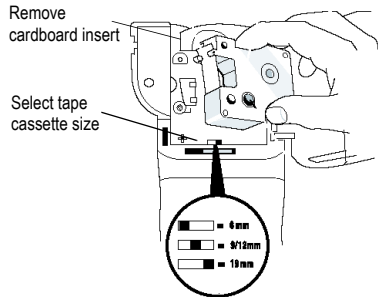

Figure 5
The first time you use the labelmaker, remove the protective cardboard insert from between the print head and pinch roller. See Figure 5.
2. Set the cassette switch for the size of the label cassette that you are inserting. See Figure 5. A notch in the cassette fits over the switch when the cassette is in the correct position.